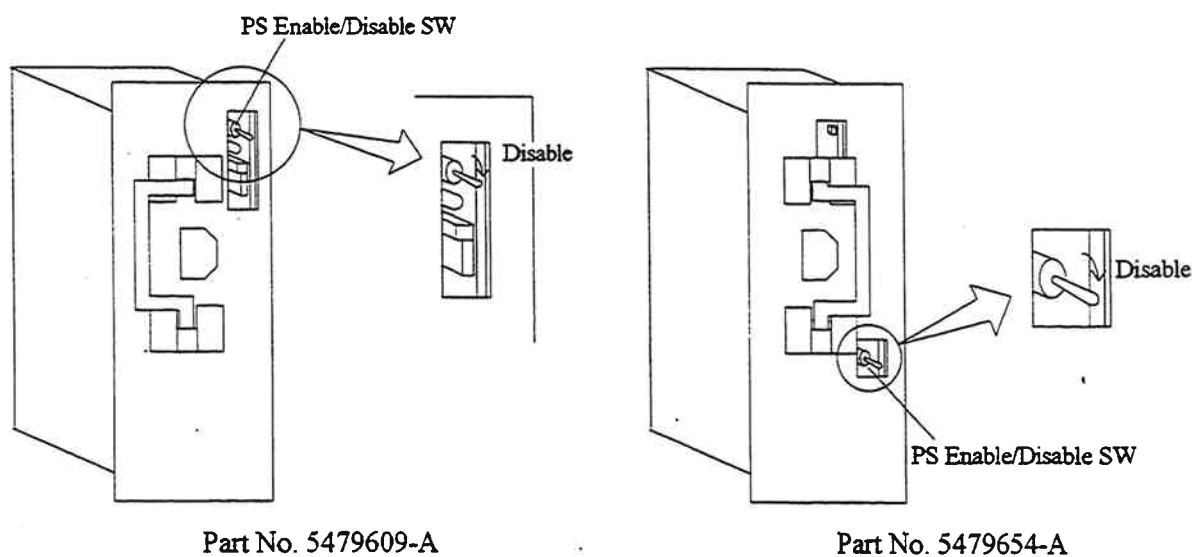

Fig. 3.3.8.2.2-1 Switch
- a. Confirm the PS Enable/Disable Switch is turned to(DOWN) **Disable**. Refer to Fig. 3.3.8.2.2-1.
- Loosen the two screws① and remove the support. Refer to Fig. 3.3.8.2.2-3.
- Loosen the screws② and remove the dummy plates from the inserting locations. Refer to Table 3.3.8.2.2-1, Fig. 3.3.8.2.2-2, and Fig. 3.3.8.2.2-3.